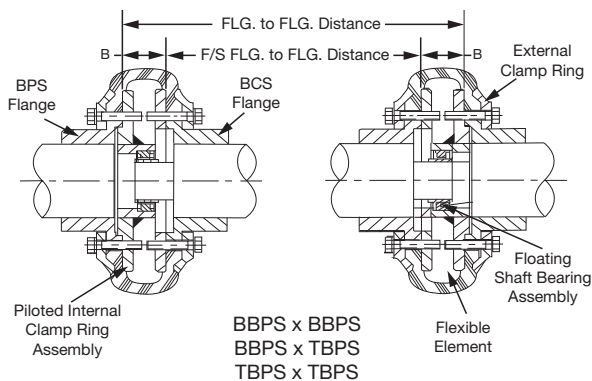

Figure 8 - Floating Shaft Coupling
3. Referring to Figure 8 and Table 1, observe the "B" dimension for the coupling size being installed. Mount and position the flanges on the shafts so that dimension "B" is achieved when the shafts are in their final position. Where flanges contain set screws, tighten to values listed in Table 2.
4. Remove any anti-rust lubricants or oil from the grooved side of the clamp rings. Assemble internal and external clamp rings to floating shaft flanges and snug up clamp ring screws. Slip internal piloted clamp rings onto the turned down portion of floating shaft. Hub projection on clamp ring should be toward floating shaft as shown in Figure 8.